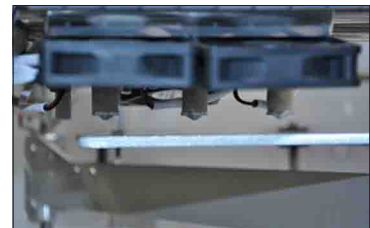

Fig. 97
2. Use the Up and Down arrows to raise and lower the print plate to adjust the gap between the print jet tip and Print Plate. Start with approximately 10 mm between the tip and the Print Pad. This distance will enable rough leveling. (Fig. 97)